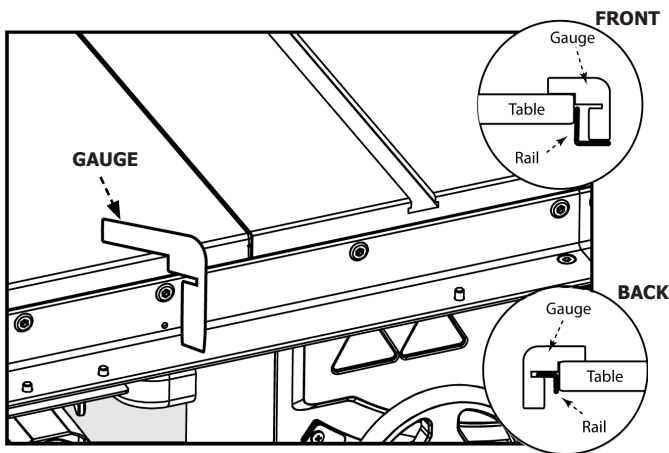

FIGURE 5
3. Use supplied rail alignment gauge to ensure the rail is the proper distance from the top of the table at each side of the cast iron table. See Figure 5.